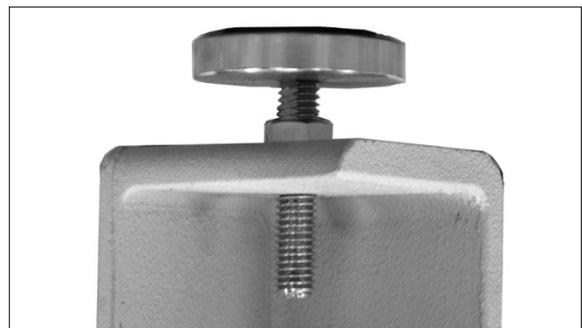

Figure 6
7. Install leveling feet (Figure 6), and tighten each nut against the leg. (These can be adjusted later.)